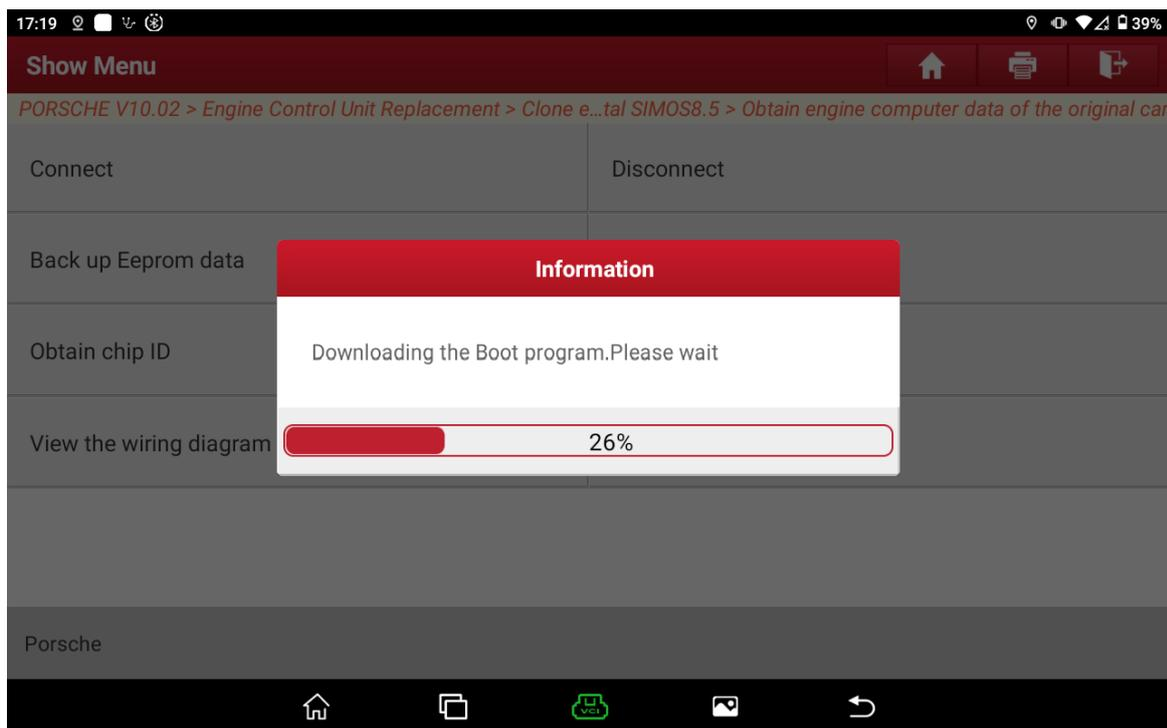
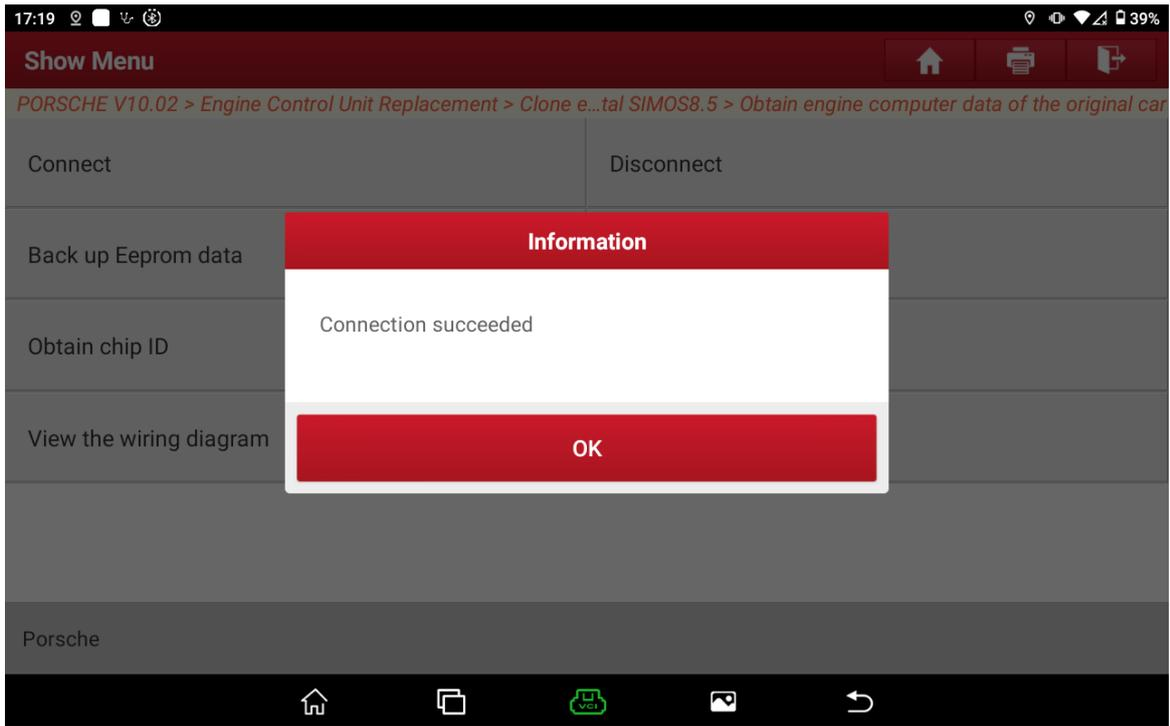

Figure 4
Figure 5
- Execute **【Connect】**, and the connection is tested normal, as shown in Figure 4 and Figure 5: